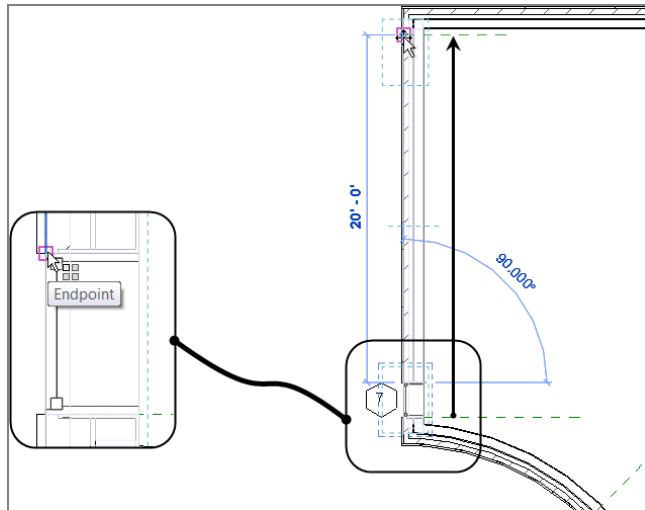

FIGURE 4.22: "Moving" the window to the top reference plane
17. Move your cursor up the wall, and pick a point perpendicular to the top reference plane, as shown in Figure 4.22.